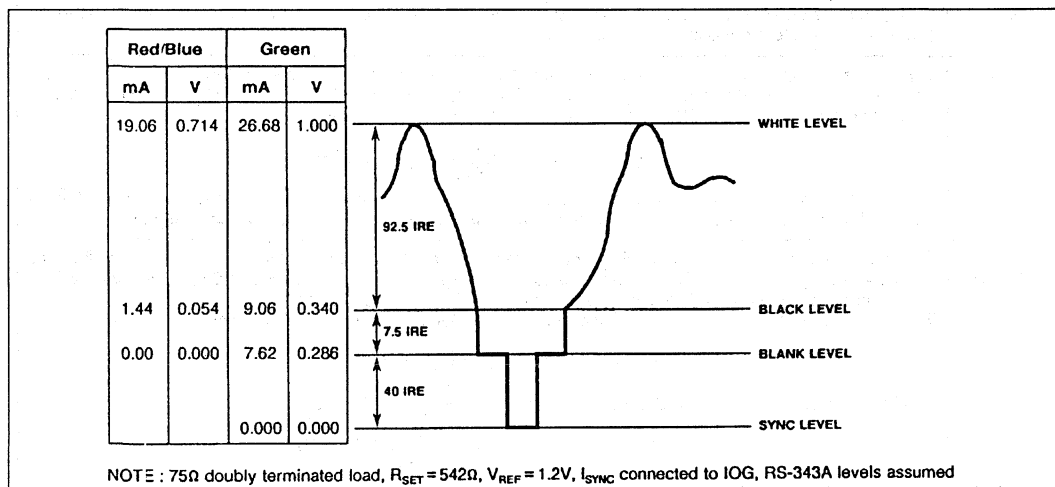

Fig.3 Composite video output waveform
SYNC and BLANK are latched on the rising edge of the clock to maintain synchronisation with the colour data. These inputs add appropriately weighted currents to the analog outputs, producing the specific output levels required for video applications as shown in Fig. 3. Table 1 details how the SYNC, BLANK, and REFWHITE inputs modify the output levels.
FS ADJUST	<p>Full scale adjust control. A resistor (RSET) connected between this pin and AGND controls the magnitude of the full video signal (Fig. 3). The current flowing in the RSET resistor is equal to 32 LSBs. note that the IRE relationships in Fig. 3 are maintained, regardless of the full scale output current. The relationship between RSET and full scale current on IOG (assuming ISYNC is connected to IOG) is:</p> $\text{IOG (mA)} = 12082 \times \frac{V_{\text{REF}} \text{ (V)}}{R_{\text{SET}} \text{ (}\Omega\text{)}} \cong 387 \text{ LSBs}$ <p>The full scale output current on IOR, IOB (mA) for a given RSET is defined as:</p> $\text{IOR, IOB (mA)} = 8624 \times \frac{V_{\text{REF}} \text{ (V)}}{R_{\text{SET}} \text{ (}\Omega\text{)}} \cong 276 \text{ LSBs}$